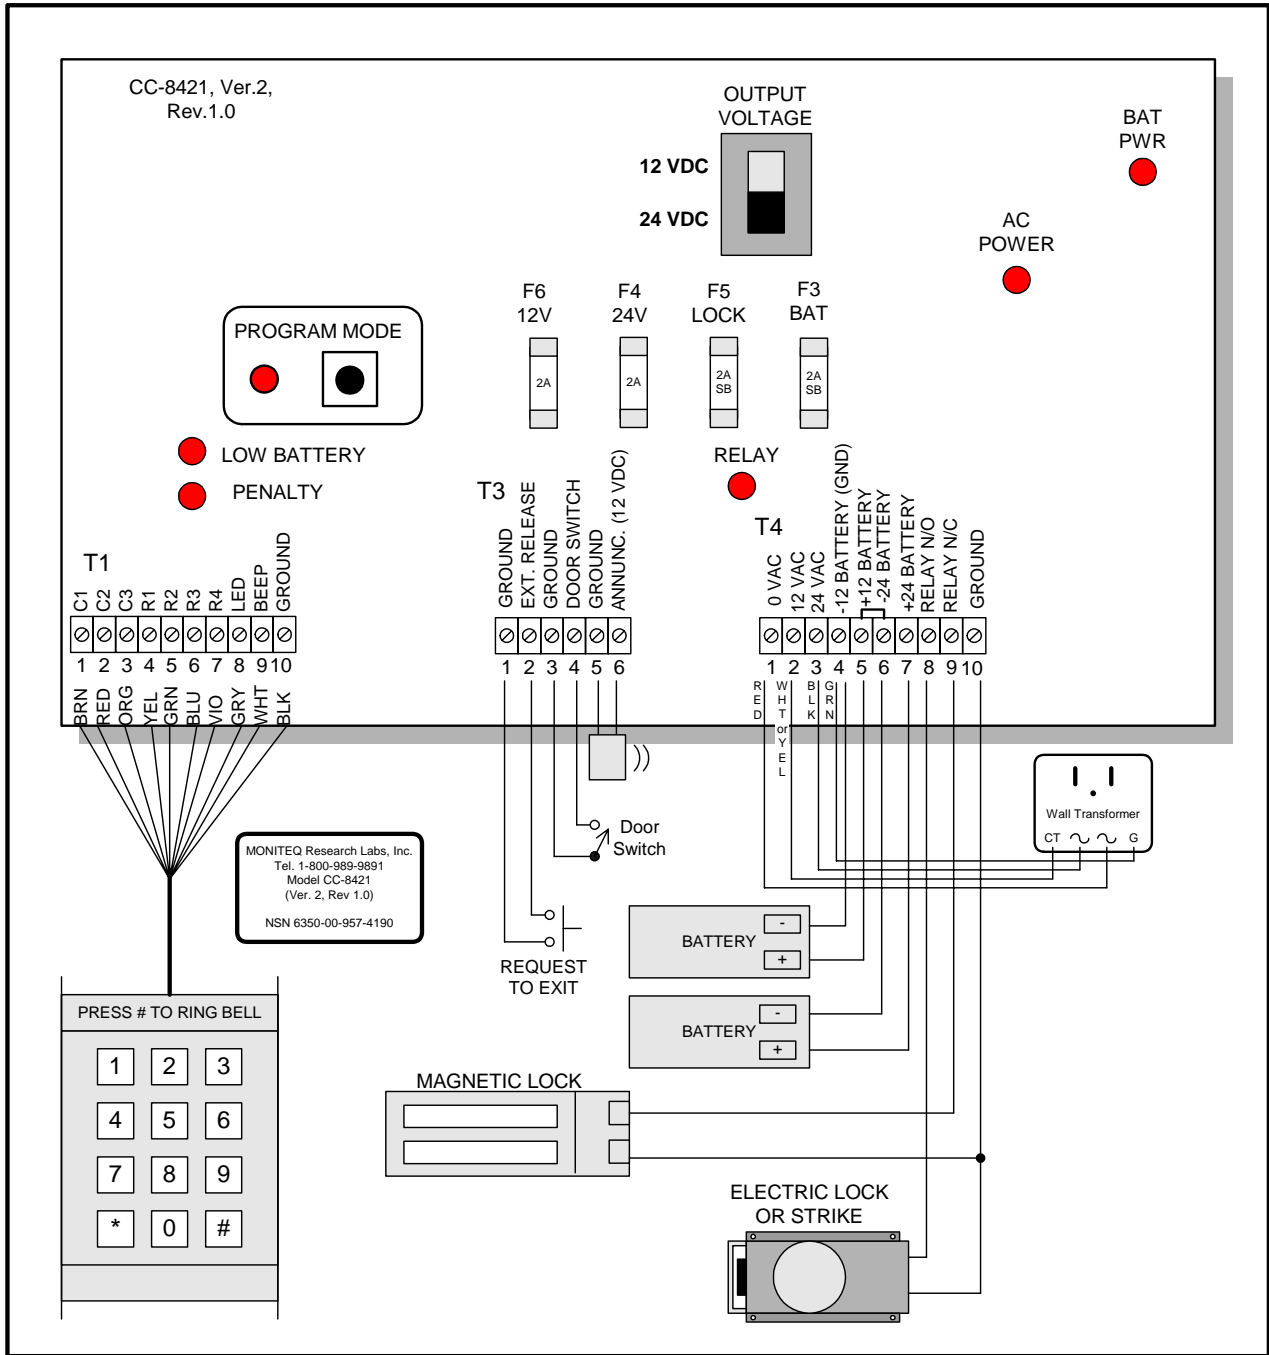

Figure 5-1, Wiring Diagram for External Devices
5. Connect the Keypad to the Control Unit as shown in Figure 5-1. Ten feet of cable is supplied with the Keypad. The Keypad can be
6. Connect the electric lock, strike and/or magnet as shown in Figure 5-1.
7. If used, connect a Release Button (not supplied), and external 12Vdc annunciator (not supplied), as shown in Figure 5-1. Note that an internal annunciator in the Control Unit will sound when the Keypad's # button is pressed and for all alarm functions.
8. If the Door Propped or Forced Door alarm functions will be used, connect the door switch to the Control Unit as shown in Figure 5-1.
9. If used, install and connect the batteries as shown in Figure 5-1 using the two supplied battery cables. Use only 12V, 1.2 to 7AH re-chargeable sealed lead acid batteries. (Moniteq Type CC-BATT)
10. Connect the 24 Vac center tapped wall transformer to T3 in the Control Unit as shown in Figure 5-1.
The system includes a number of functions that make it possible to monitor the status of the door during operation. With the exception of the Open Duration function, these features require that a door position switch be installed on the door and connected to the Control Unit as illustrated in Figure 5-1.
The CC-8421 Keypad has a built-in visitor annunciator button. Pressing the # key causes an annunciator to sound in the Control Unit. If an external sounding device is connected as shown in Figure 5-1 it will also sound when this button is pressed.